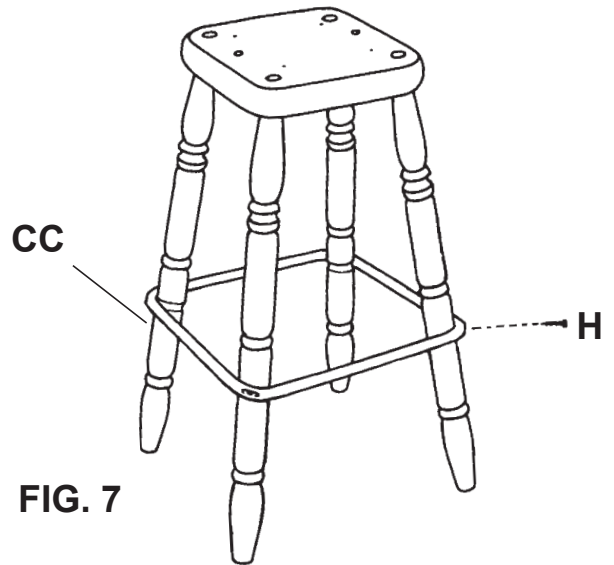

FIG. 7
- 7) Slip the Ring (CC) over the top of the leg assembly and down to the ring grooves on the legs, located approximately 11" above the floor. Drill a 1/8" pilot hole through the hole in the ring approximately 5/8" into each leg. Fasten the ring into place using the #10x 1 1/2" Brass Screws (H). See FIGURE 7.